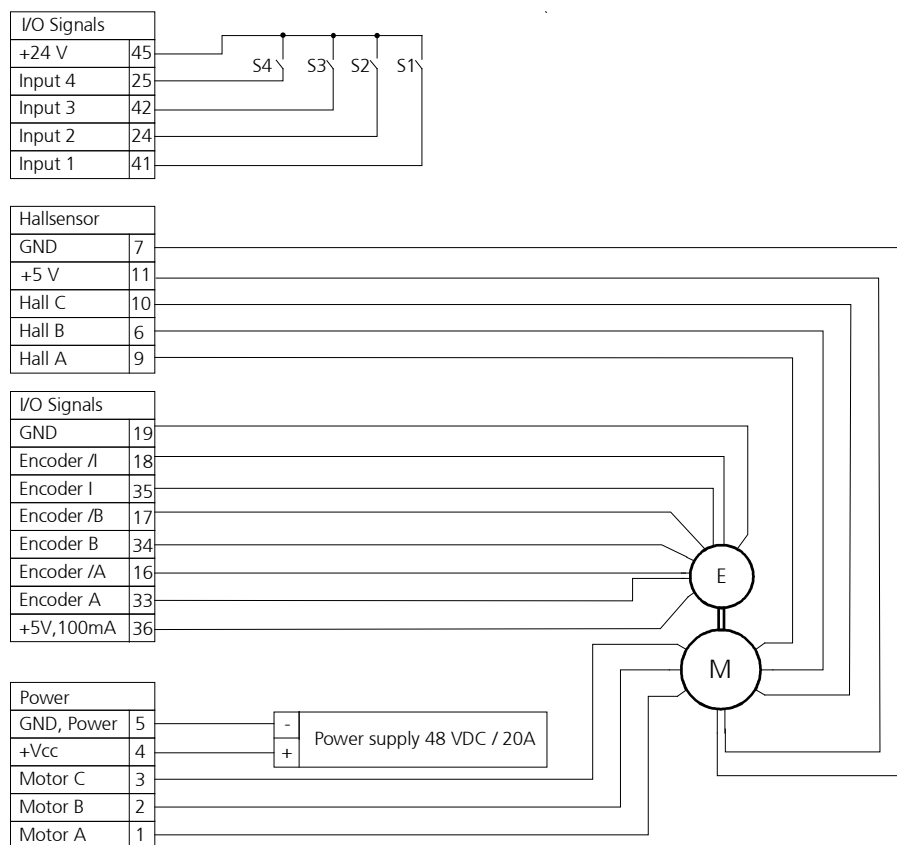

Figure 23
1. Connect the motor cables with a motor control unit (see Figure 23).